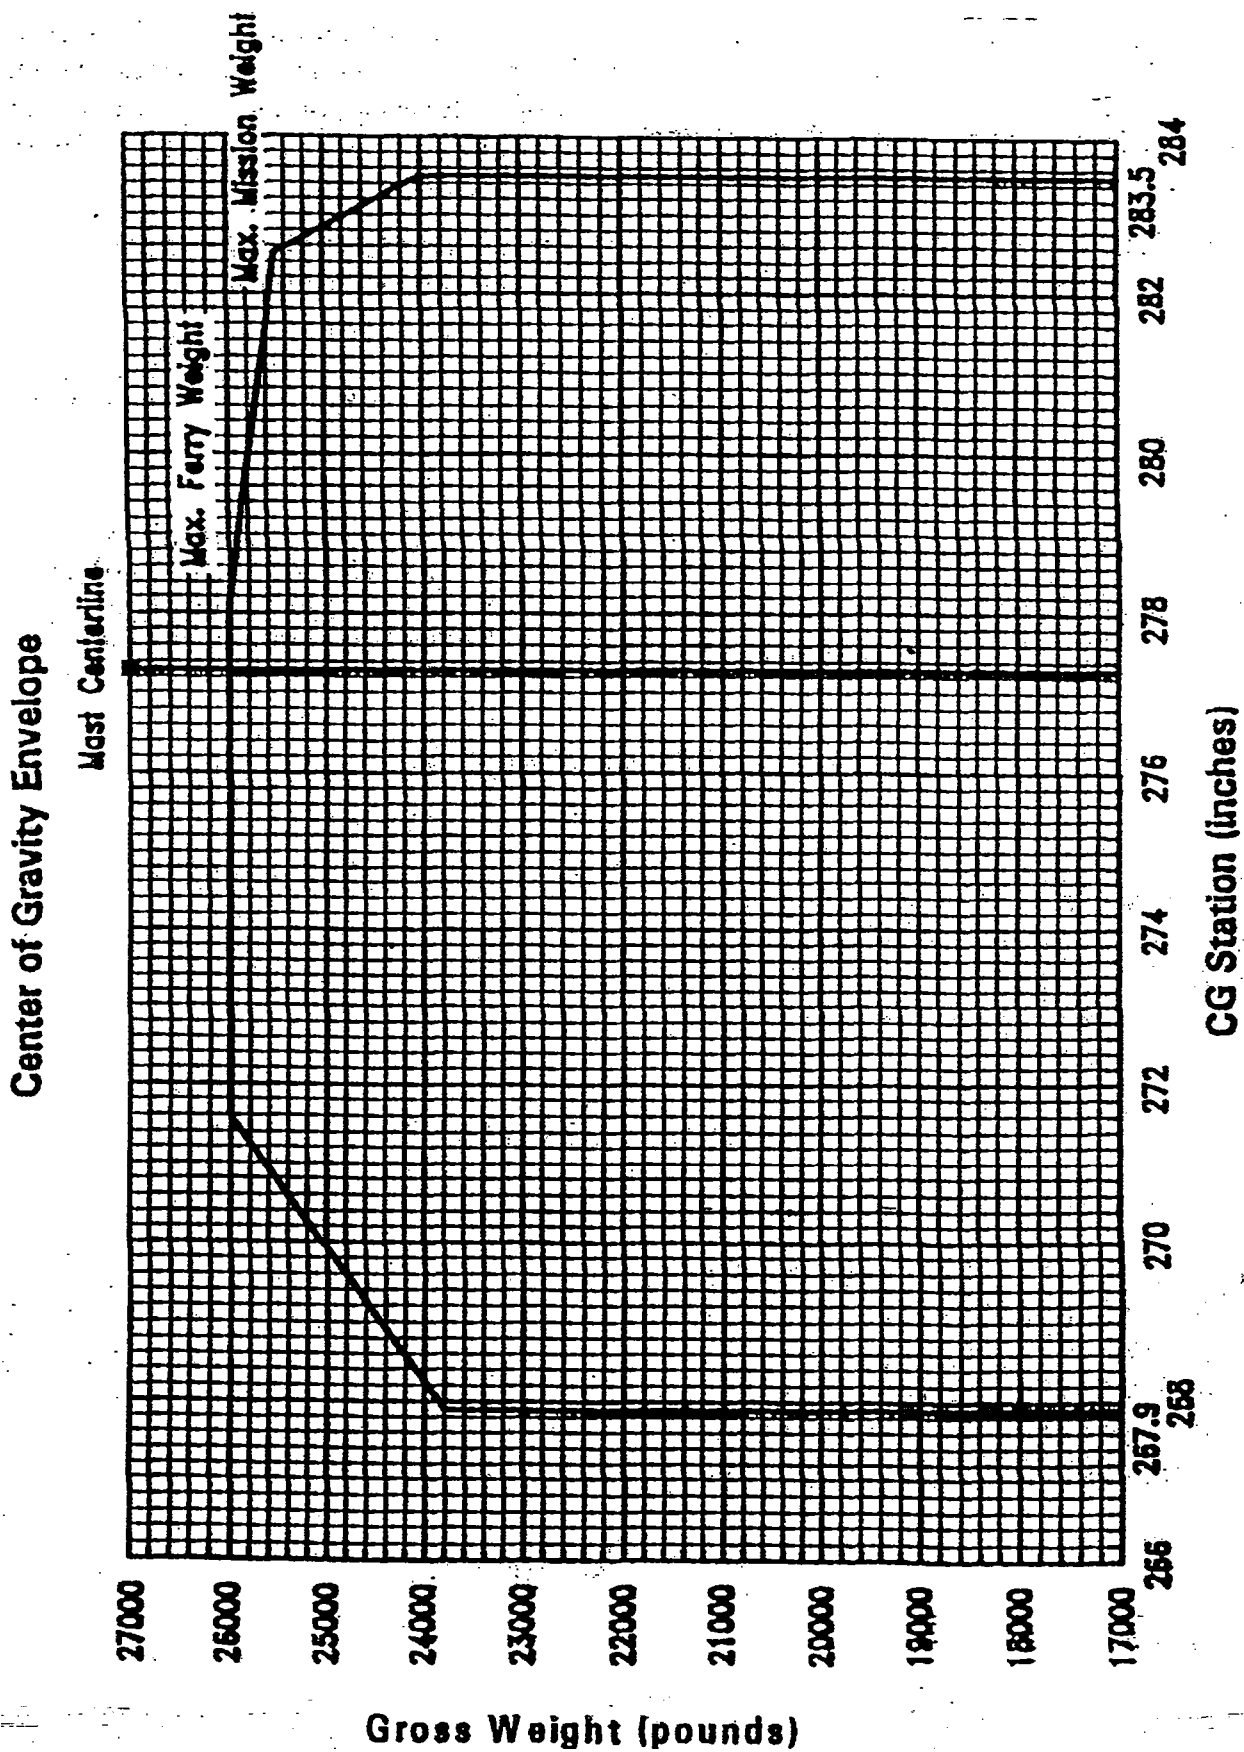

Figure 6-2 Center of Gravity Envelope
F. Center of Gravity (CC). Center of gravity is the point about which a helicopter would balance if suspended. Its distance from the reference datum line is found by dividing the total moment by the gross weight of the helicopter.
G. CG limits. CG limits (Figure 6-2) define the permissible range for CC stations. The CG of the loaded helicopter must be within these limits at takeoff, in flight, and on landing.